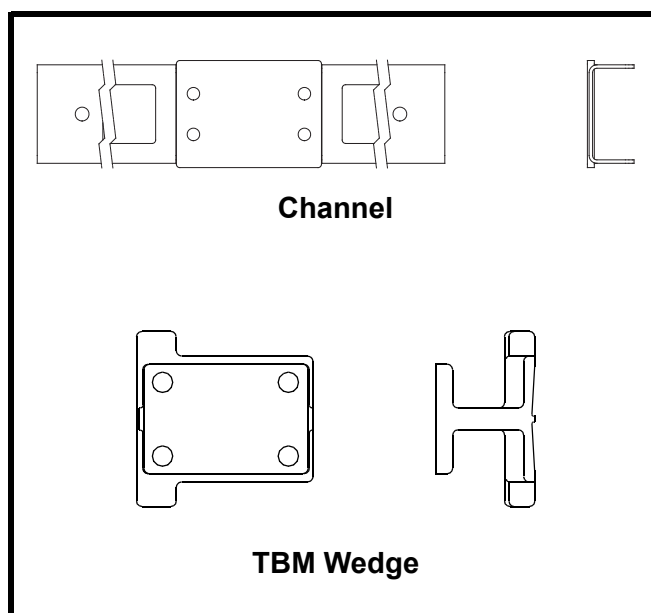

Figure 2. Channel and TBM Wedge Mounts (Top and Side Views)
2. See Figure 2. If using Martin® Channel Mount to mount vibrator onto structure, do the following:
- d. If installing vibrator on hopper with wedge mount already in place, use TBM Wedge (see Figure 2) or equivalent to mount vibrator. Mount female half of wedge rigidly to beam extending at least 3/4 the slope length.
2. Install vibrator onto Channel mount or TBM wedge (see Figure 2) as follows: